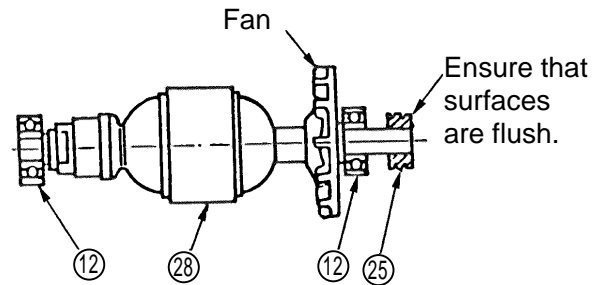

Fig. 13
- (2) Press Fitting of Pulley (A): (Fig. 13)
First, press fit 608VVC2 Ball Bearings (12) onto the commutator side and fan side of the Armature (28), and ensure that they are properly in contact with the Armature shaft fitting portion and fan fitting portion respectively. Then, press fit Pulley (A) (25) onto the Armature shaft, and carefully ensure that the outer surface of Pulley (A) is flush with the end surface of the Armature shaft as illustrated in Fig. 13.